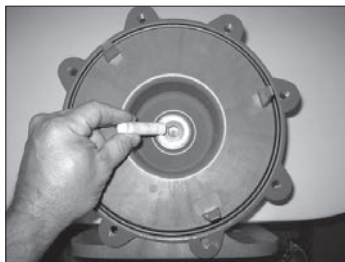

Figure 44
- Install o-ring (item 10) in groove in barrier. Make sure it is tucked in all the way around. See figure 44.
- Install impeller shaft (item 9) into barrier by aligning the flats on the shaft with the ones in the barrier. Make sure it is completely seated. See figure 44